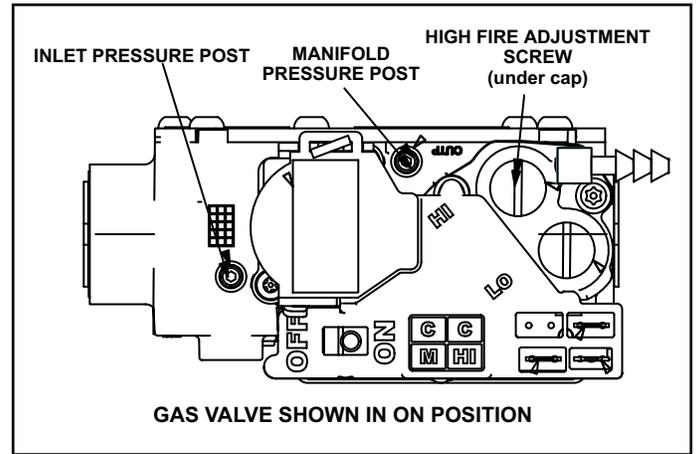

Figure 13. Gas Valve
The valve (Figure 13) is internally redundant to assure safety shut-off. If the gas valve must be replaced, the same type valve must be used.
6. Move gas valve switch to OFF. See Figure 13.
8. Move gas valve switch to ON. See Figure 13.
1. Connect test gauge to manifold pressure post (Figure 13) on gas valve.
4. If necessary, make adjustments. Figure 13 shows location of high fire and low fire adjustment screw.